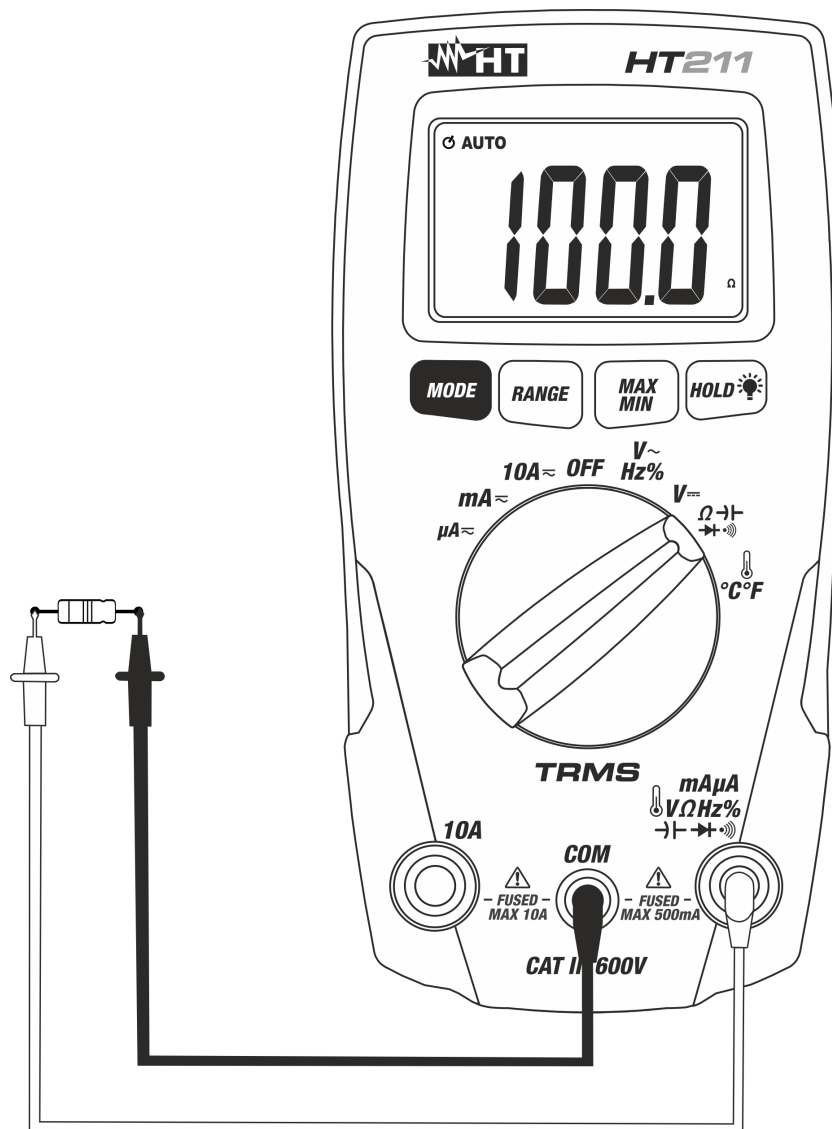

Fig. 5: Using the instrument for Resistance measurement
3. Connect the test leads to the circuit under test (see Fig. 5). The resistance value is displayed